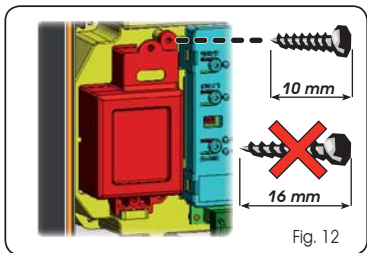

Fig. 12
2. Insert the battery in the housing you have just created, and secure it on the anchoring supports (Fig.12).